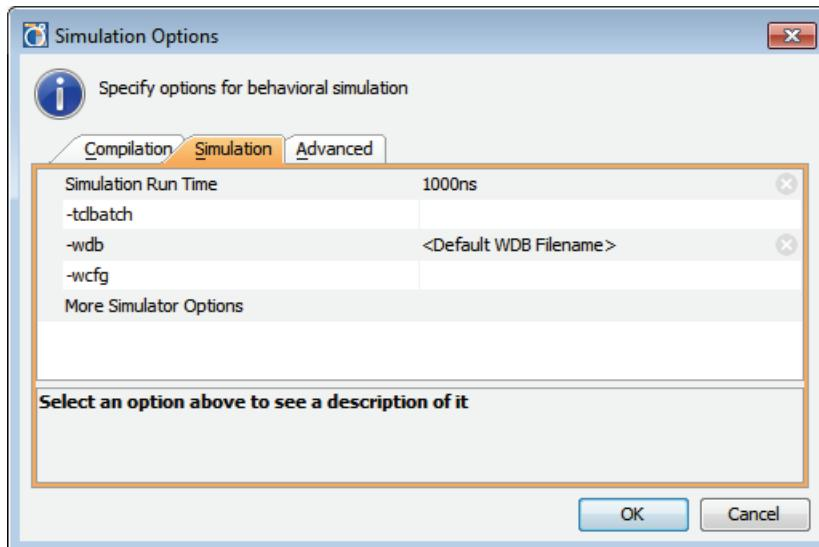

Figure 5-6: Behavioral Simulation Language Options
- **Options:** Opens the Simulation Options dialog box as shown in Figure 5-5, page 190 and Figure 5-6, page 191.
Figure 5-6 shows the **Simulation** tab of the Simulation Options dialog box.